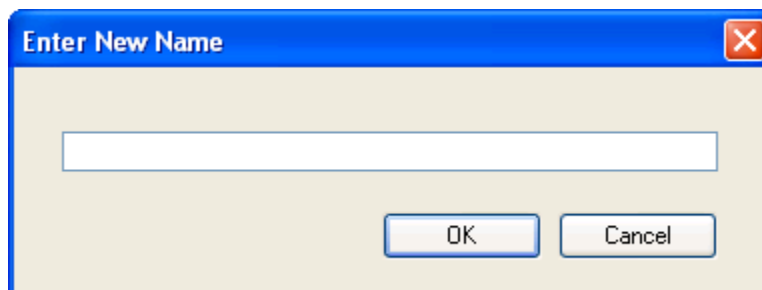

Figure 75 - Enter New Name Window
3. The **Enter New Name** window (Figure 75) appears.